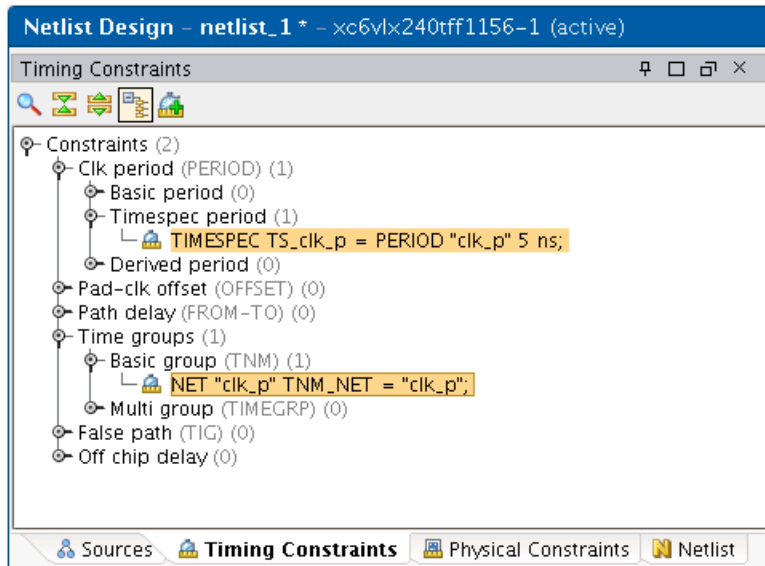

Figure 16: Timing Constraints View (pblock_U1_RP_Bram)
- 7-1-6.** Click **OK** to add the constraint. The Timing Constraint window should now look like Figure 16. Note that this is a global timing constraint that will constrain all synchronous paths connected to `clk_p` in the design. This is not a timing constraint specific to the RP interface.